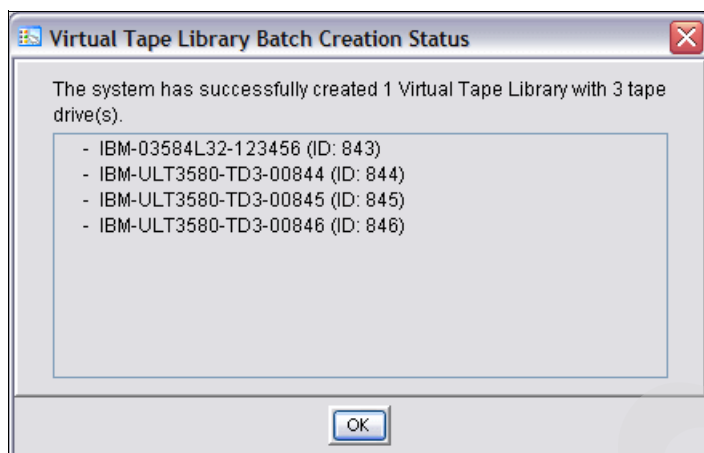

Figure 5-40 Virtual Tape Library Creation Status
6. In the Create Virtual Library panel (Figure 5-39), verify the details and click **Finish** if it is correct. Then the virtual library is created and creation status is shown (Figure 5-40 on page 99).
7. The Virtual Tape Library Creation Status window opens as shown in Figure 5-40. Click **OK**.